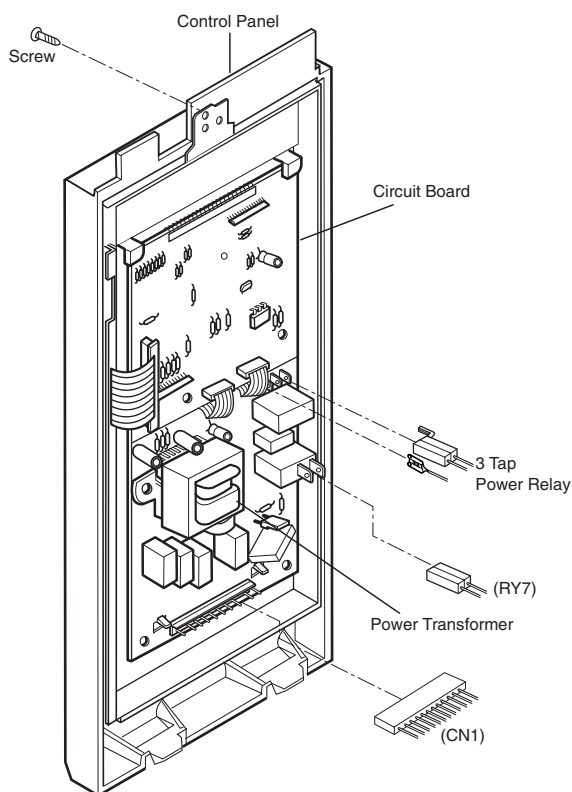

Figure 1
A. REMOVING POWER AND CONTROL CIRCUIT BOARD (Figures 1, 2 and 3)
- (1) Remove a screw securing the control panel assembly to the oven cavity.
- (2) Remove the control panel with pushing it upward.
- (3) Remove the connector (CN1) and wire leads (3 Tap Power Relay, RY7) from the circuit board.